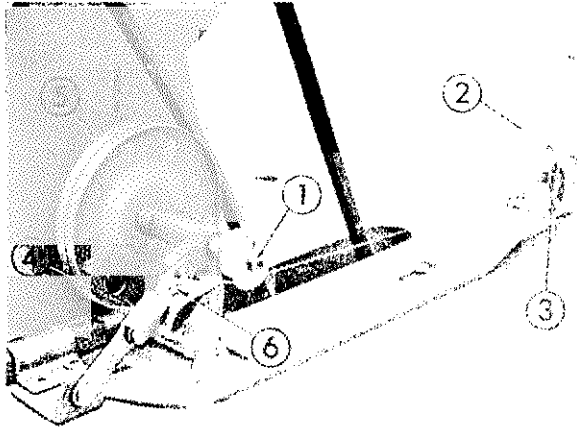

Fig. 8
## 8. How to wind the bobbin (Fig. 8)
Fasten the bobbin winder to the table as shown in Fig. 8. Be sure to fasten the pulley (5) so that it will be contacting the belt correctly at the winding position. To wind the bobbin, first, insert the bobbin into the pulley shaft (1) as far as it will go. Then, after passing the thread through the eyelet (2) of the thread guide on the tension bracket, pass it between the 2 thread tension discs (3) towards you from the back side, then pull out this thread and wind the tip of this thread into the bobbin from under-side several times around. Then, if the trip latch (4) is pressed, it will press down the bobbin and the pulley will contact the belt and with the rotation of the machine, the pulley will also rotate. When sufficient amount of thread is wound, the trip latch will be released and the rotation of the pulley will stop. The amount of wound thread can be regulated by the screw (6). This winding process can be performed during the running of the machine.